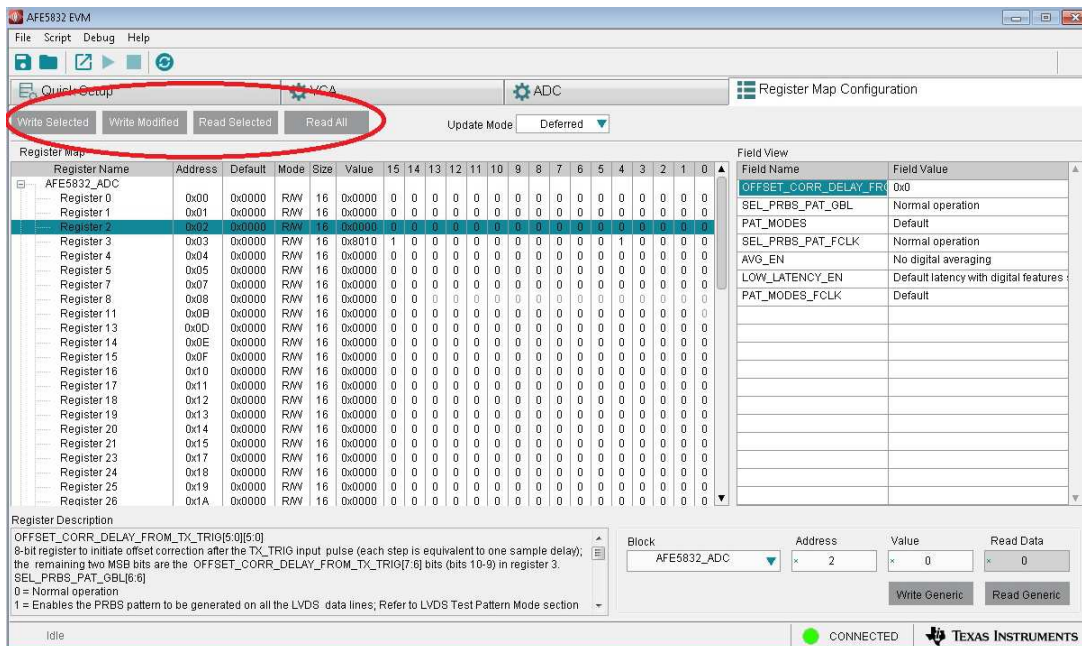

Figure 57. AFE5832: Register Map Configuration: Deferred Update Mode
There are two options to change the *Update Mode* on the GUI as shown in Figure 57: (a) Immediate and (b) Deferred.
2. The *Deferred* update mode allows the user to change the values of any number of bits or fields within the registers, but these changes will not be written to the device instantly. Unless the changes are implemented, data cannot be read from the registers either. When a user changes the contents of a register in *Deferred* mode, the GUI will turn the changed register font a blue color. These *blue-font registers* indicate that a change has been made but not yet implemented. Within the *Deferred* update mode, there exist options in the top left-hand corner of the GUI for deciding how the changes should be implemented (shown in Figure 57): (a) *Read Selected* data, (b) *Write Selected* data, and (c) *Write Modified* data, or (d) *Read All* data.
1. *Read Selected*: Clicking this option in the top left-hand corner displays the value contained in the register in the *Read Data* field in the lower right-hand corner of the GUI. In the same area of the GUI, the *Address* field will display the address of the selected register, and the *Value* field will display the value contained in that register as shown in Figure 57.